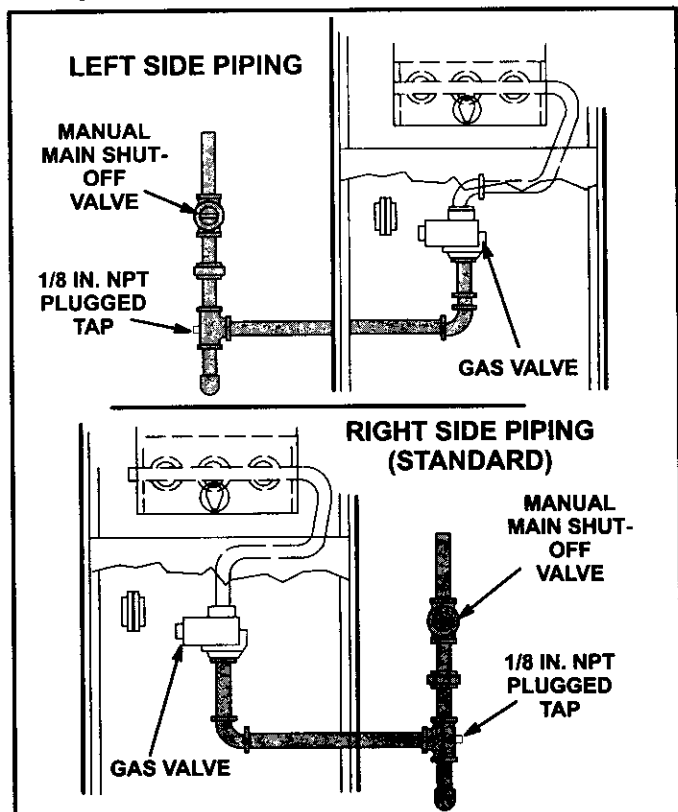

FIGURE 23
- 1 - Gas piping may be routed into the unit through either the left- or right-hand side. Supply piping enters into the gas valve from the bottom of the valve as shown in figure 23.
When left-hand gas plumbing is required, gas line should be installed in the lower half of knockout so that piping will clear combustion air inducer. See figure 23.